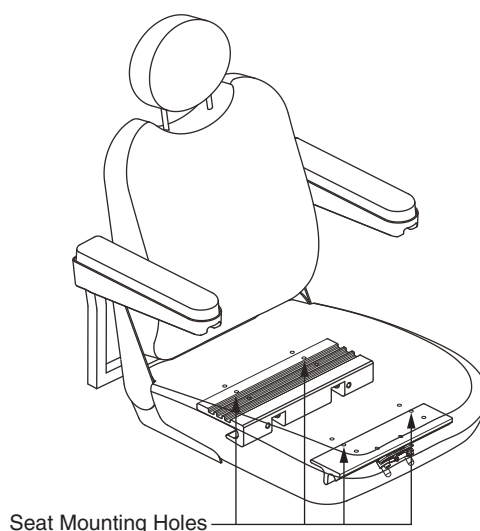

Figure 11. Seat Position Adjustment
6. Reposition the extrusions on a different set of mounting holes. You must move both extrusions the same number of holes either forward or backwards. **See figure 11.**